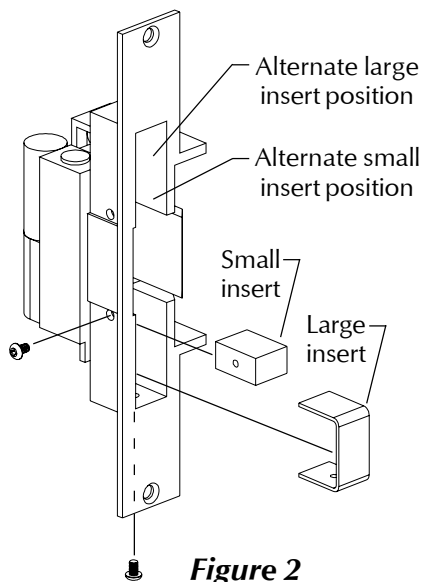

Figure 2
4. Install small insert for auxiliary bolt operation and large insert in unused dead bolt pocket (Figure 2).